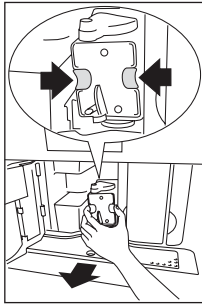

Fig. 39
- ▶ Press the two red release buttons inwards and at the same time pull the brewing unit outwards (Fig. 39).